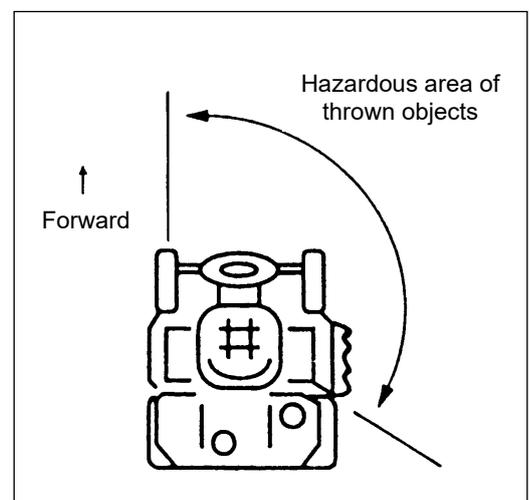

Figure 19
**Check that there is nobody stay in the mowing path and especially in the thrown object zone (Figure 19). Stop the machine immediatly when hitting something. Let the machine get cold, clean the machine from dust and debris. Check the machine or ask your dealer to check if the machine is not damage.**